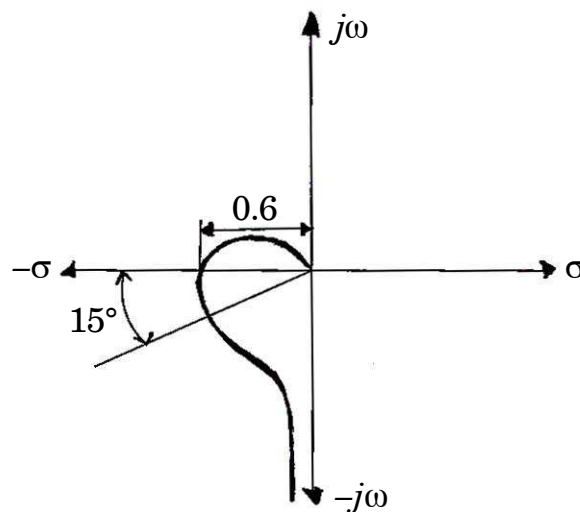

Figure 1 : Polar Plot
- (b) Polar plot of system is given in Figure 1. Determine its Gain Margin (dB) and Phase Margin. [6]